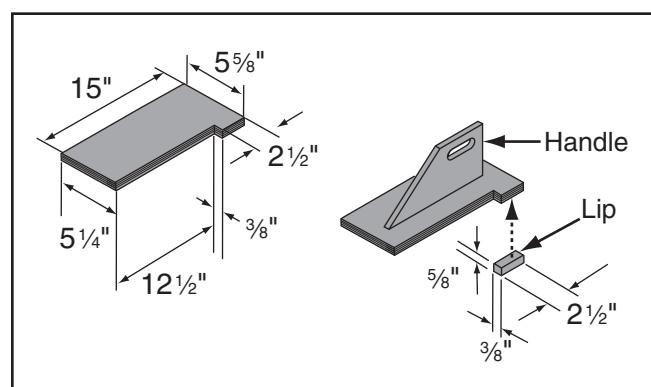

Figure 93. Push block dimensions and construction.
3. Using the $\frac{3}{4}$ " material you used in the previous steps, cut out pieces for the push block per the dimensions shown in **Figure 93**; for the handle, cut a piece 10" long by 5"-9" high and shape it as desired to fit your hand.